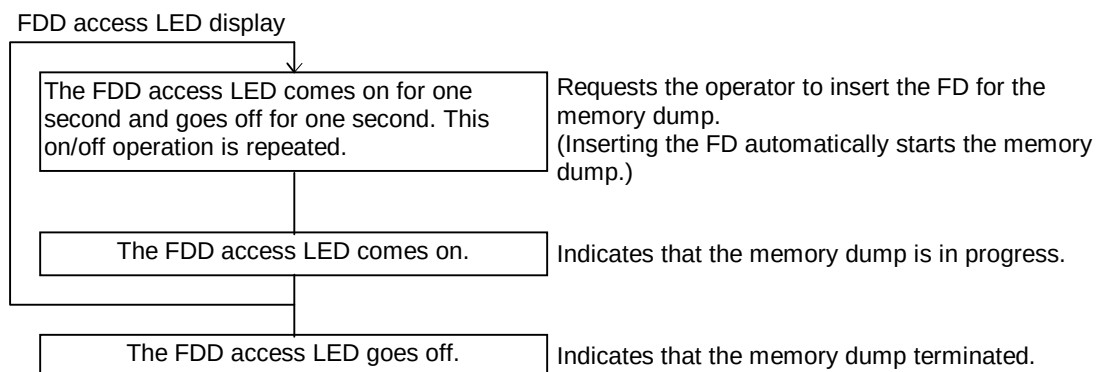

Figure 5.2.4 DIP Switch Setting for Memory Dump
- ③ Set DIP switch No.2 of the CTL ASSY for which memory dump is to be executed, as shown in Figure 5.2.4. The DIP switches of the CTL ASSYs for which memory dump is not to be executed need not be set.